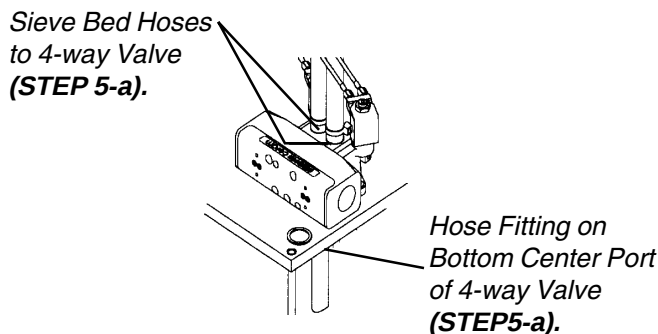

FIGURE 1 - 4-WAY VALVE HOSES
- a) The two (2) sieve bed hoses at the top of 4-way Valve and hose to bottom center port on 4-way Valve (FIGURE 1).